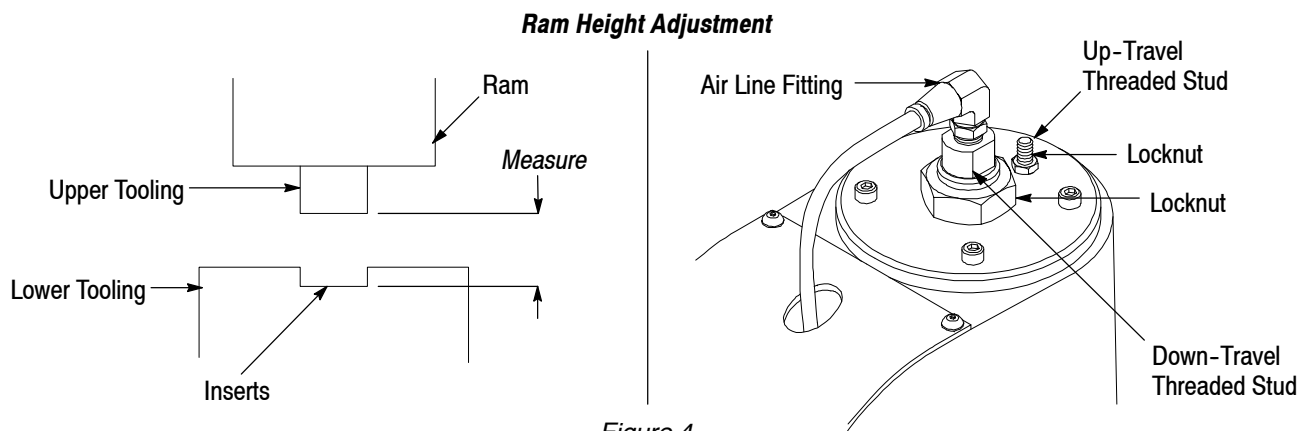

Figure 4
7.2. Ram Height Adjustment (Figure 4)